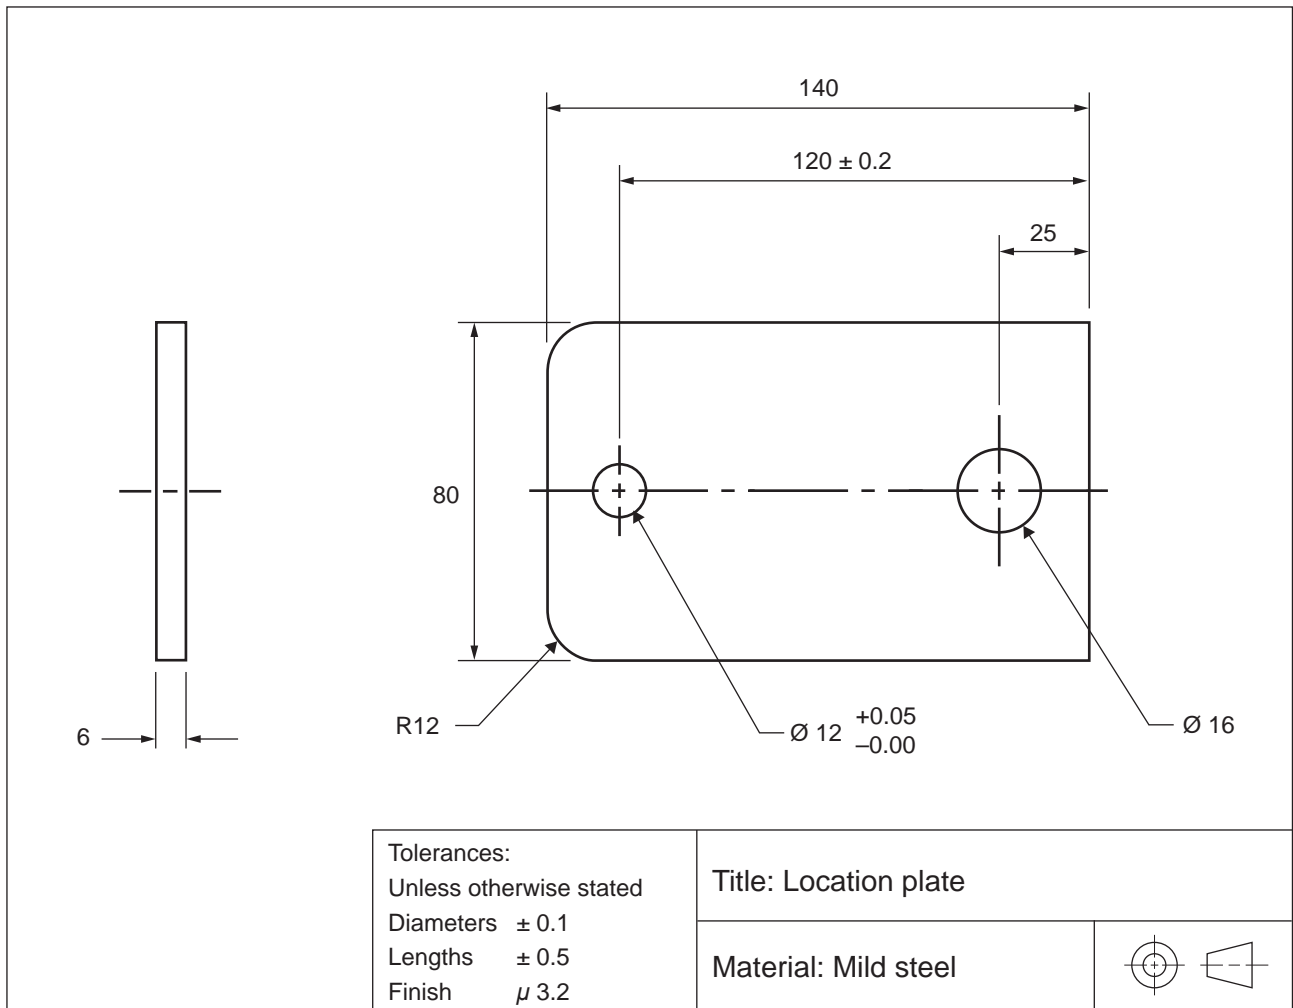

Figure 13
Figure 13 shows a drawing of a location plate.
- a. On Figure 13, draw an arrow pointing to the datum edge.
- c. Complete the table below by listing the maximum and minimum sizes for each dimension of the location plate shown in Figure 13.